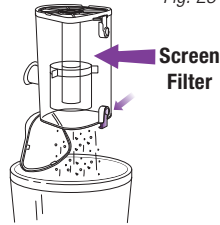

Fig. 24
- 3 If needed, turn the dust cup upside down over the trash receptacle and press the top door release button. (Fig. 24) Tap gently to remove contents. Use a dry cloth or paper towel to remove debris stuck to the screen filter inside the dust cup. Press the door shut again until it clicks.